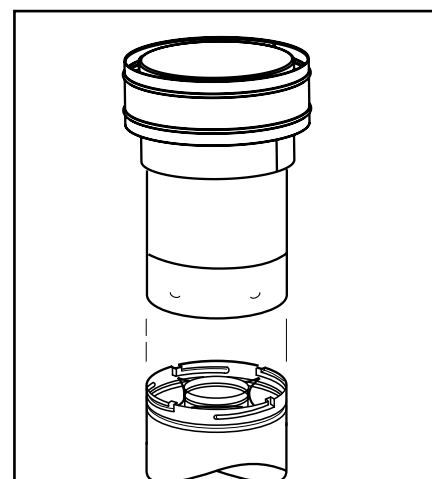

Figure 29
K. Install the vertical termination - The final step involves installation of the SV4.5CGV-1 Vertical Termination. Extend the vent sections to the height as shown in the "Vertical vent termination section" on **Page 8**. The SV4.5CGV-1 Vertical Termination (**Figure 29**) installs in the exact same fashion as any other **Secure Vent®** section. Align the termination over the end of the previously installed section, adjusting the radial alignment until the four locking dimples of the termination are aligned with the inlets of the four incline channels of the last vent section. Push the termination down until it fully engages, then twist the termination clockwise running the dimples down and along the incline channels until they seat at the end of the channels.